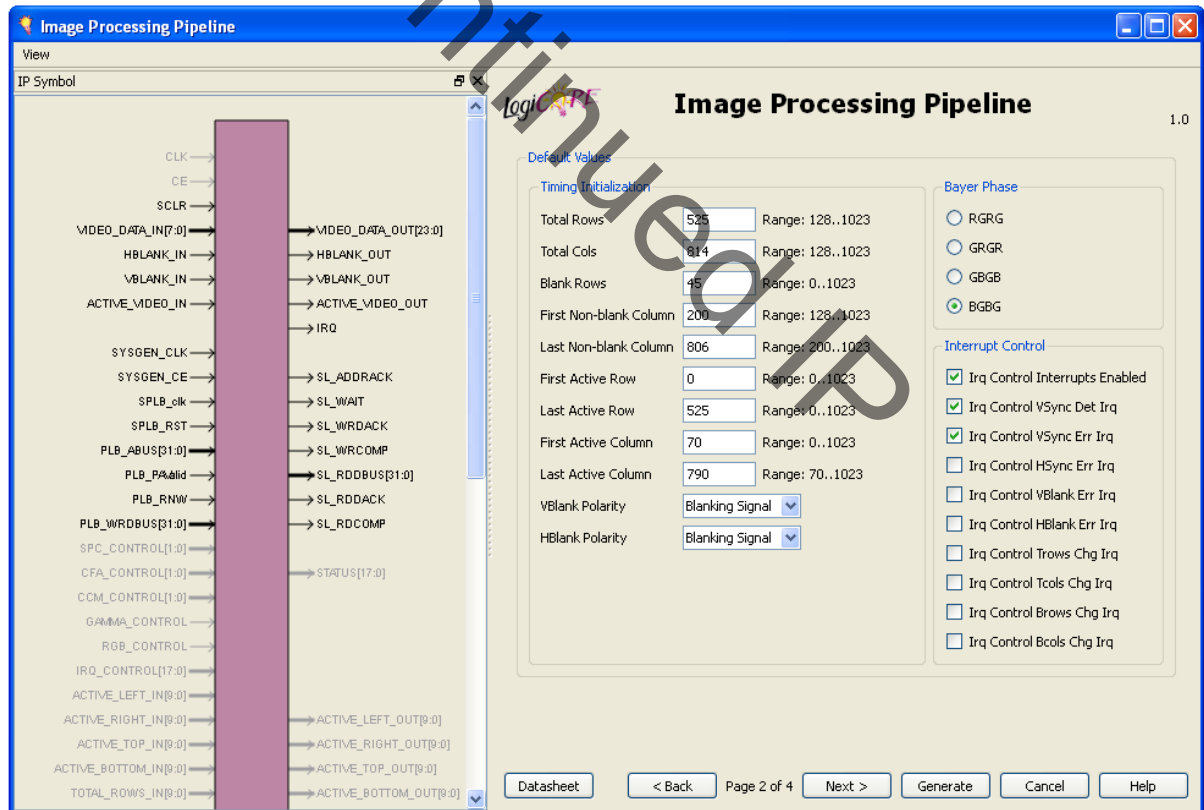

Figure 9: Color Filter Array Interpolation, Default Values Screen
**Default Values:** The second screen of the GUI (Figure 9) allows the definition of default timing, polarity, Bayer Phase and interrupt control values. For the Constant Interface, Interrupt Control and Bayer Phase, values are permanent for the generated Color Filter Array Interpolation instance, while Timing Initialization values are discarded once valid input timing signals are detected.